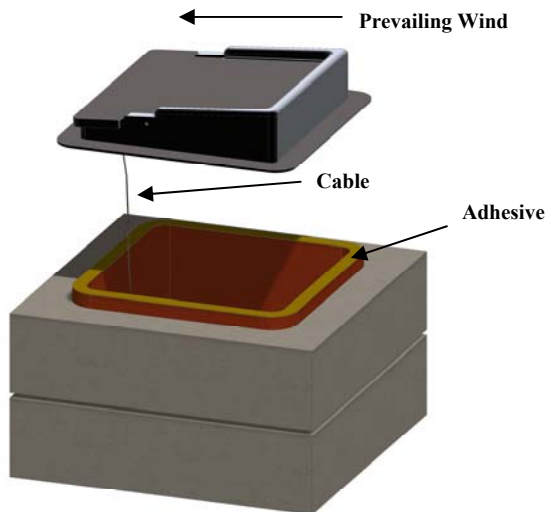

Figure 26. Install Top-Mount Damper
A. If installing a damper with this model Stone Age fireplace, use a top-mount damper, and follow the instructions included with the damper. Properly orient the taller side of the damper with the prevailing winds in your area. See Figure 26.